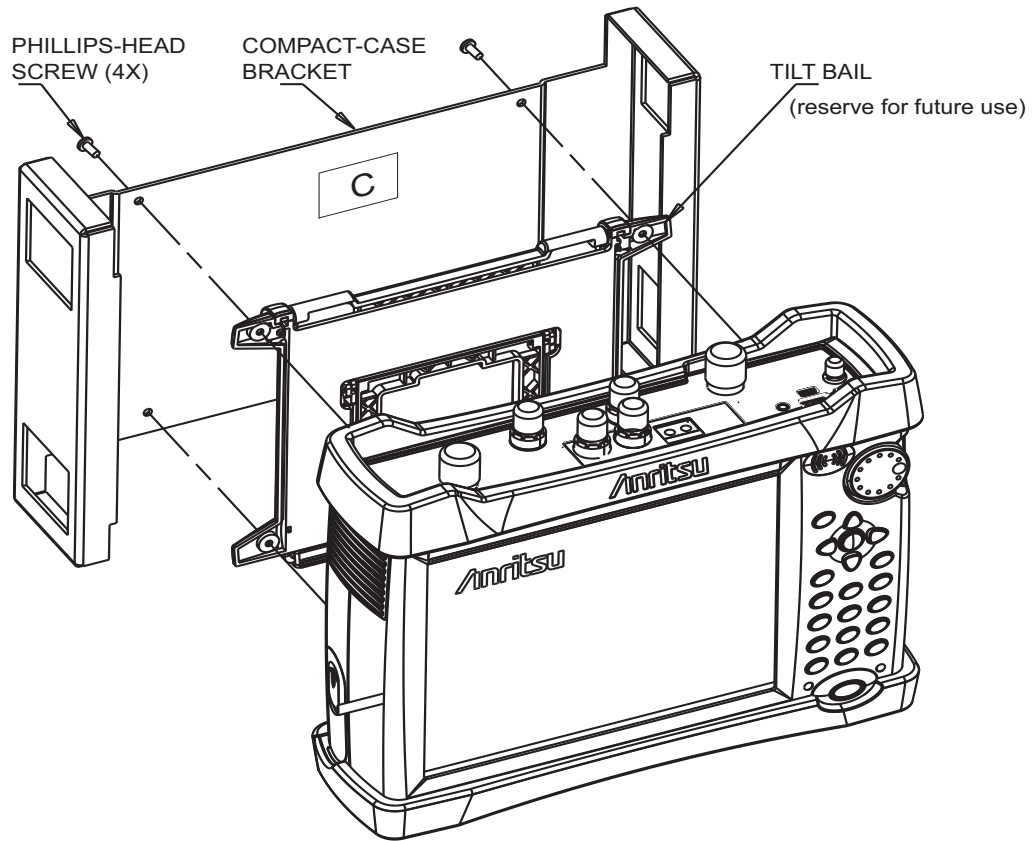

Figure 1-10. Compact-Case Rack Mount — Preparing the Instrument
3. Secure your instrument to the Compact-Case Bracket (C) with the four screws that were removed from the tilt bail in Step 1. Refer to Figure 1-10 on page 1-13. Note that the upper two holes are spaced wider apart than the bottom two holes due to the tilt bail mounting configuration.
4. Ensure that Thin-Case Spacer (B) is resting on the ledge of Main Bracket (A) and that the lip of spacer B is over the top edge of bracket A. Note that the ledge is centered at the bottom of the bracket A.